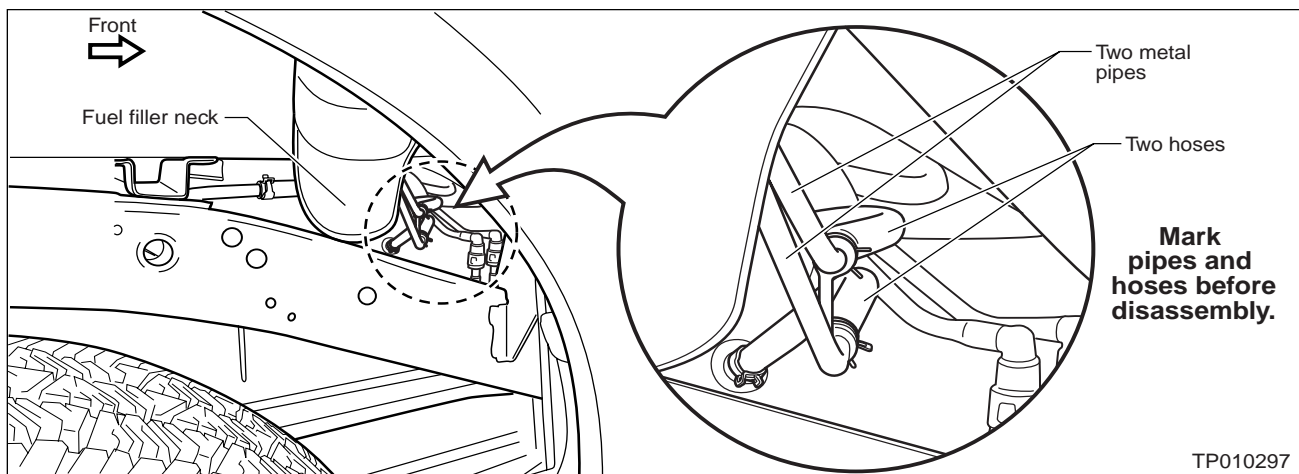

Figure 12
- Before disassembly: use duct tape and an “indelible” marker (permanent marker), to mark the matching pipes and hoses, which are attached to the fuel filler neck (see Figure 12).